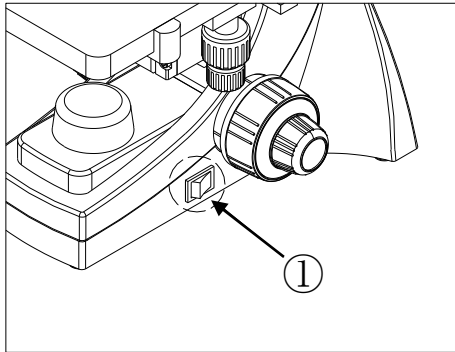

Fig. 13
Connect the power supply and turn on the main switch ① (Fig. 13) .